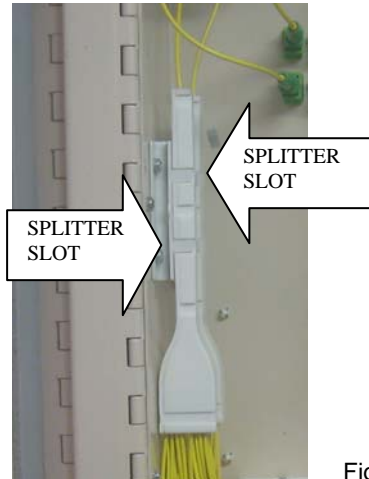

Figure 3
9. – Install the factory Direct Connect Splitter(s) into the upper left corner bracket of the swing panel. (Refer to Figure 3)